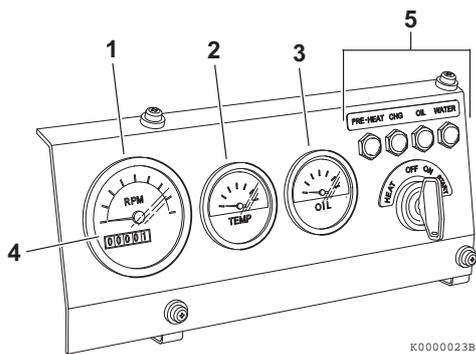
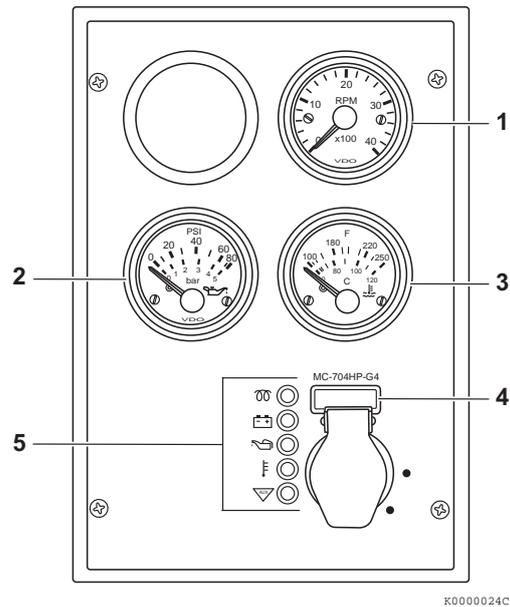

Figure 5
Figure 6
1. While the engine is running, check the gauges for normal indications. The gauges shown in **Figure 6** and **Figure 5** are provided for illustrative purposes only.
- **Tachometer (Figure 6, (1)) or (Figure 5, (1))** - Make sure the engine speed is within normal limits.
- **Engine oil pressure (Figure 6, (2)) or (Figure 5, (3))** - Make sure the engine oil pressure is within normal limits. See *Principal Engine Specifications* on page 105.
- **Engine coolant temperature (Figure 6, (3)) or (Figure 5, (2))** - Make sure the engine coolant temperature is within normal limits.
- **Hour meter** - The hour meter display **(Figure 6, (4)) or (Figure 5, (4))** shows the total number of hours the engine has run. This is useful for planning periodic maintenance operations. See *Periodic Maintenance Schedule* on page 64.
2. After the engine has reached operating temperature, all of the indicators (**Figure 6, (5)**) or (**Figure 5, (5)**) should be off. If any of the indicators are on, shut down the engine and have the necessary repairs performed.